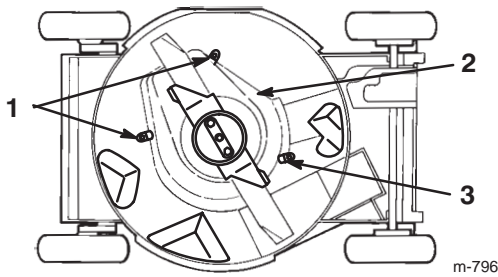

Figure 30
- Loosen the tabs that secure the BBC shield to the deck by loosening the nuts or the bolts on the tabs (Fig. 30). Rotate the tabs 180° to move them out of the way.